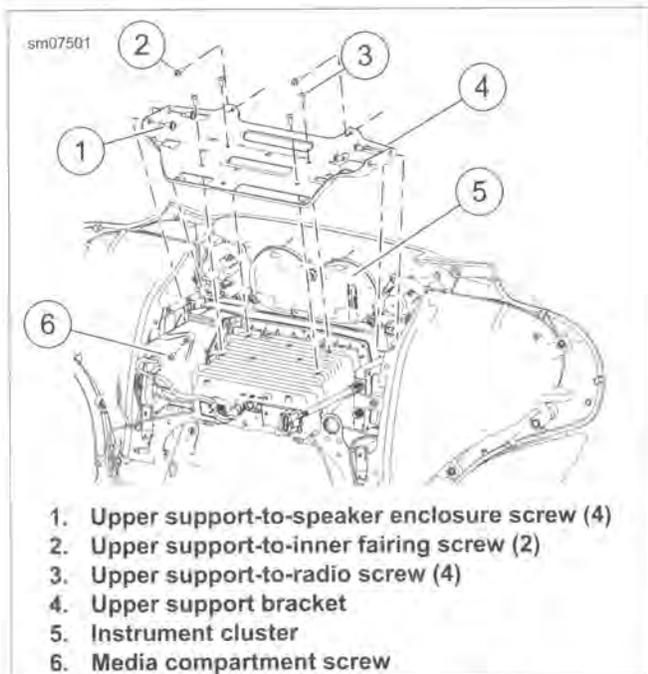

Figure 2-147. Upper Support Bracket
5. See Figure 2-147. Remove four screws (1).
6. Remove two screws (2).
7. Remove four screws (3).
8. Remove screw (6) securing media compartment.
9. Remove upper support bracket (4).
1. See Figure 2-147. Place upper support bracket (4) into position.
- a. Tighten screws (2) to 10-20 **in-lbs** (1.1-2.2 Nm).
- b. Tighten screws (1) to 48-60 **in-lbs** (5.4-6.8 Nm).
- c. Install four screws (3). Tighten to 25-35 **in-lbs** (2.8-4.0 Nm).
4. Install screw (6). Tighten to 25-35 **in-lbs** (2.8-4.0 Nm).